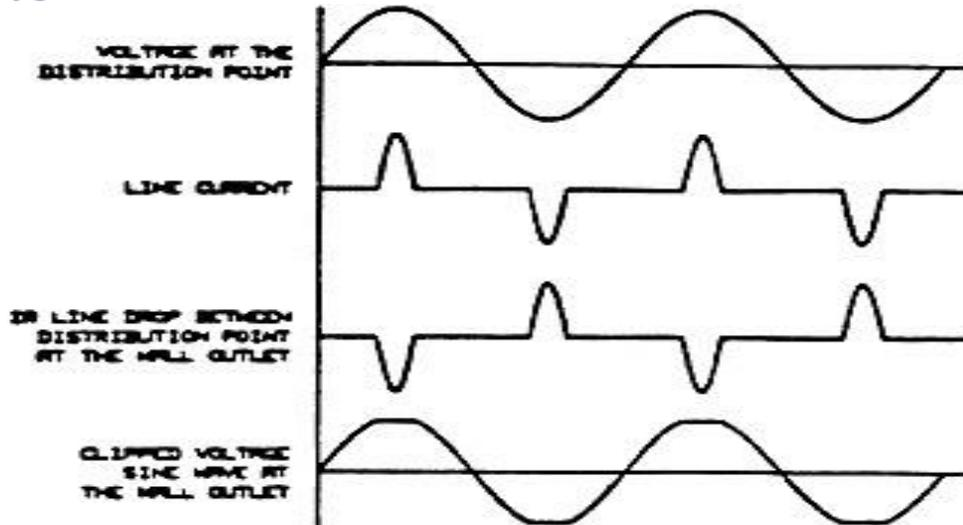

Figure 3. Effect of line IR drop on voltage waveform.
1. Power distribution costs for the electric company are reduced, making the power company much happier. A side benefit is to reduce the tendency of the current peaks to "flatten" the tops of the input voltage sinusoidal waveform as shown in Figure 3.